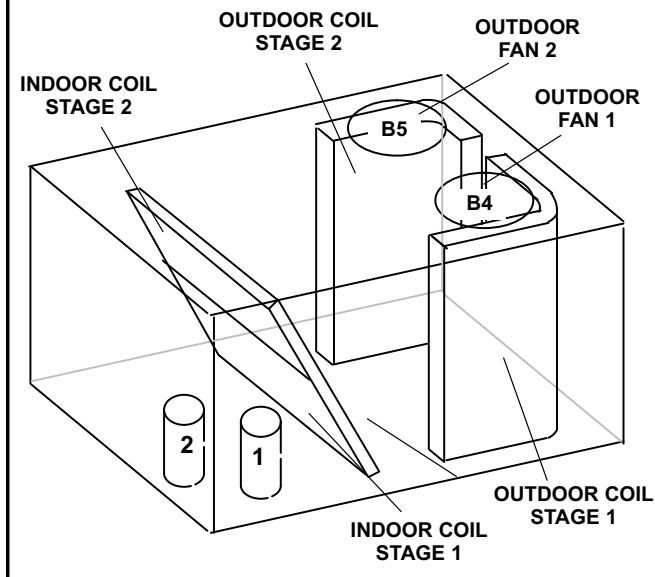
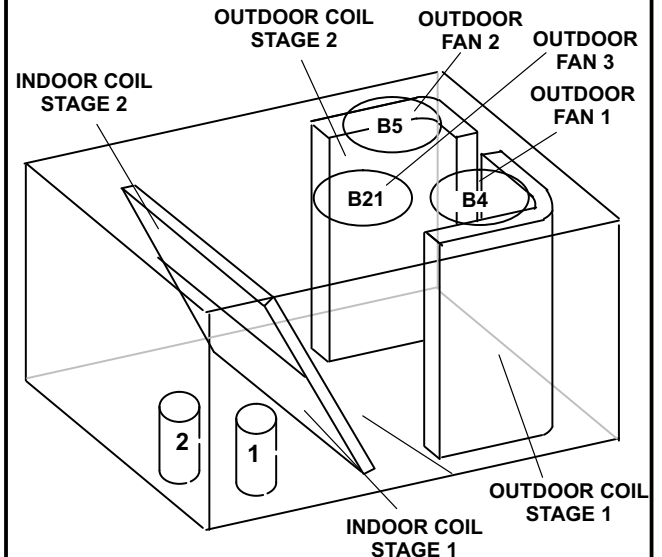

FIGURE 19
FIGURE 20
- 3- Units have two refrigerant circuits. See figure 19 or figure 20.